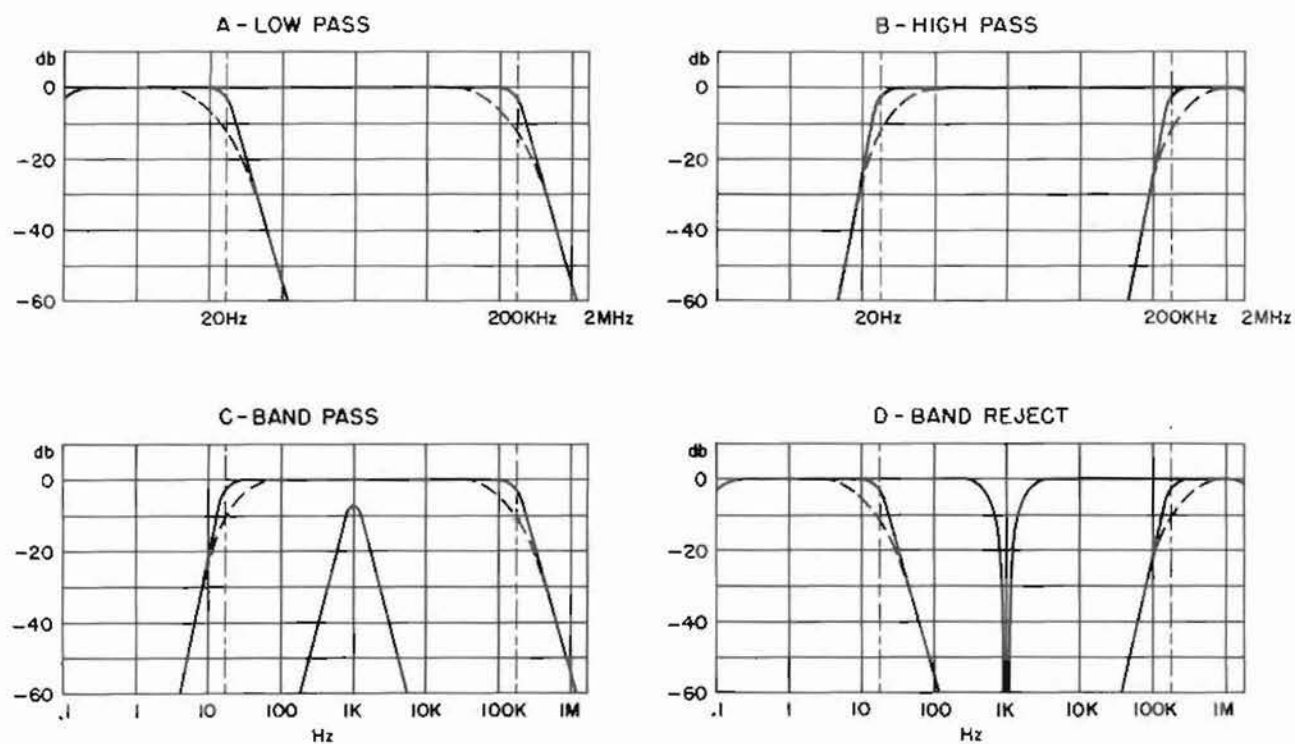
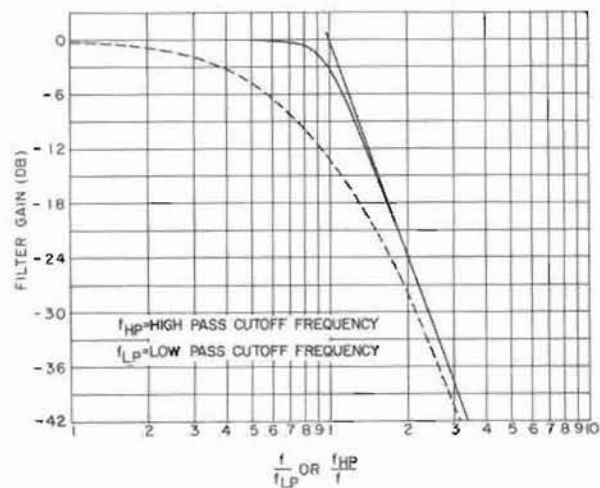
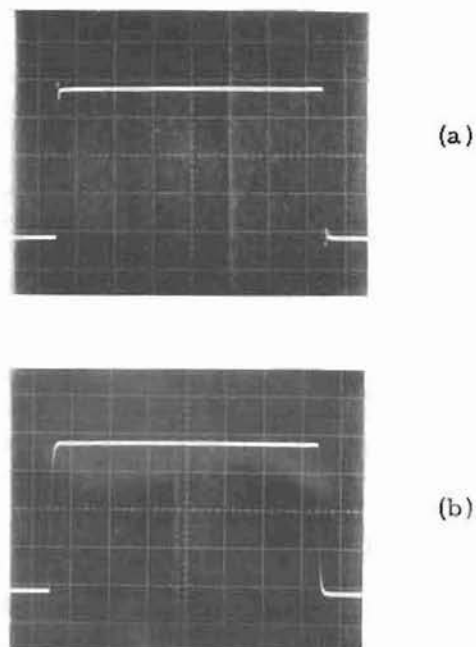

Figure 2-2. Pass Band Characteristics
Figure 2-3.
Figure 2-4. Square Wave Response
This response is plotted as the solid curves in Figure 2-2, curves A and B, and normalized on a larger scale as in Figure 2-3. It hugs the 0-dB line very closely with no ripples almost to the cutoff frequency, and then keeps close to the 24dB/octave asymptote, departing 1dB from these lines at f/fo = 0.8 and 1.25 respectively.
The limitations of this type of filter are apparent in Figure 2-4(a) which shows the step-function response of a fourth order Butterworth low pass. For applications where this eleven percent overshoot cannot be tolerated, the Model 3550 provides the LOW Q position of the RESPONSE switch. In this mode the sharpness of the cut-off is reduced just enough to eliminate the step-function overshoot (see Figure 2-4(b)). The frequency response of the LOW Q mode is shown by the dotted curves in Figure 2-2 (curves A and B). Obviously, the cutoff is much less sharp, the attenuation at the corner is approximately 12 dB and the 1 dB points are at 0.2 and 5 times the cutoff frequency.
3. Referring to Figure 2-3: